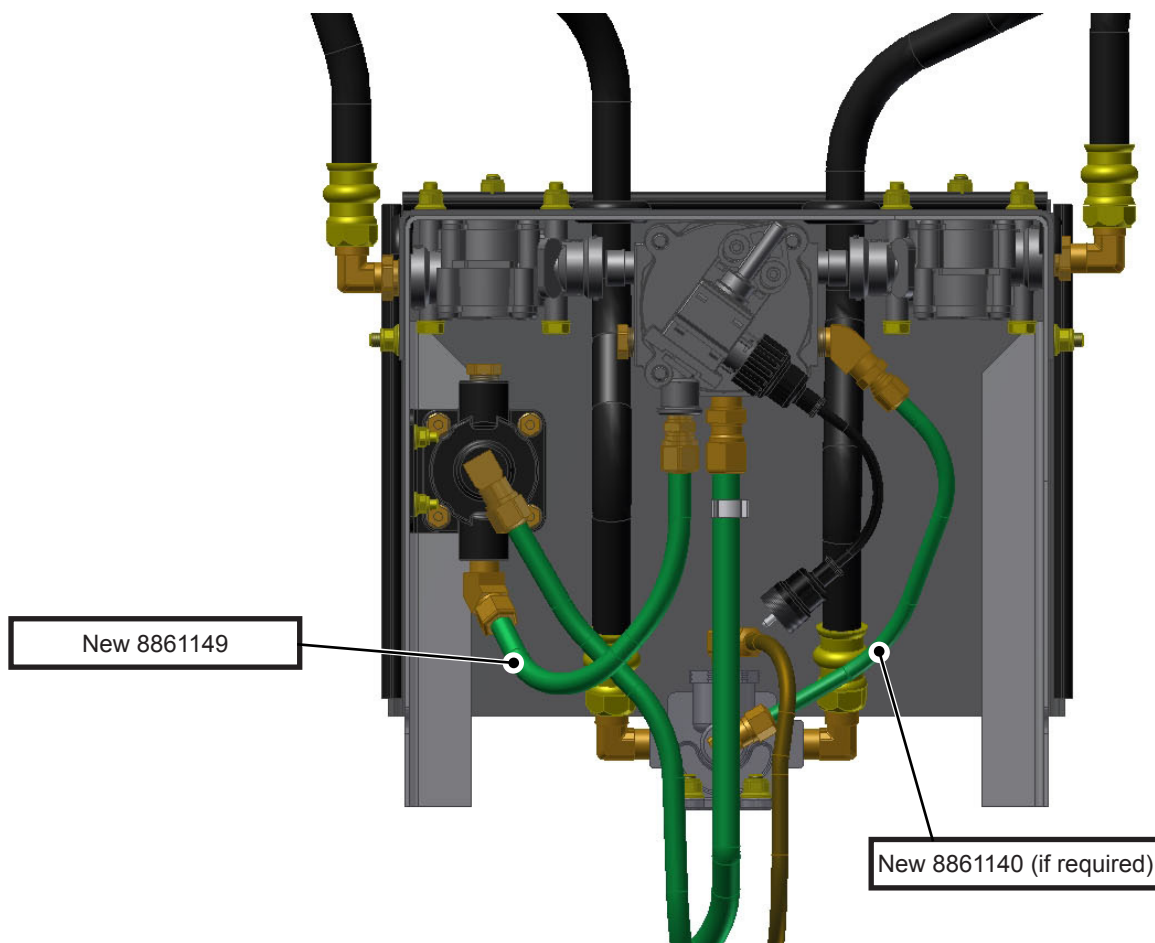

Figure 10 - Connect Hoses on the New Valves
- 1.13. Connect all the hoses as shown in Figure 10. Install and cut the 1/2 in. hose 8861149 to the right length. If the original 3/8 in. hose 8861140 is too short or damaged, replace it with the one supplied.